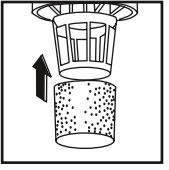

Fig. 8
7. To liquid vacuum. Install the foam filter supplied. (Fig. 8). Refer to the liquid vacuuming in the installation section.